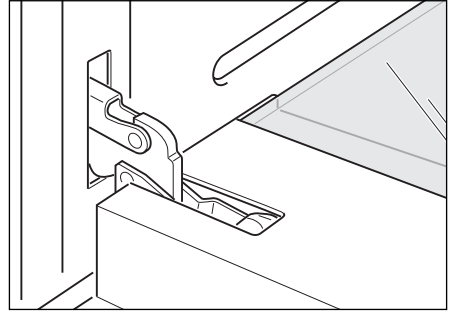

Fig.25a
- Open the door to its full extent (Fig. 25a).